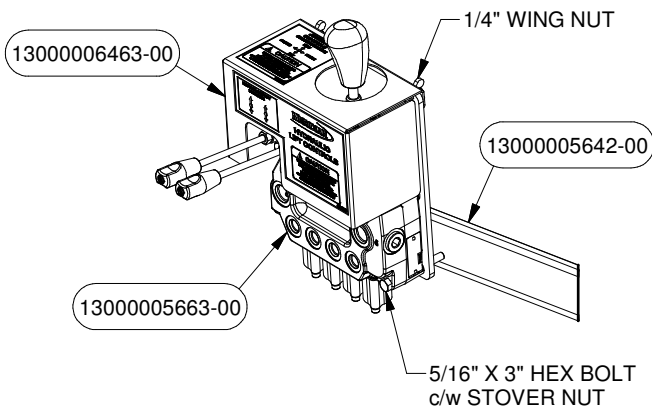

FIGURE 38
- Attach the Hydraulic Valve PN# 5663 to Control Mount PN# 5642 using Hex Bolt c/w Stover Nut. Place the Cover PN# 6463 to the Control Mount and fasten it using Wing Nuts (see Figure 38).